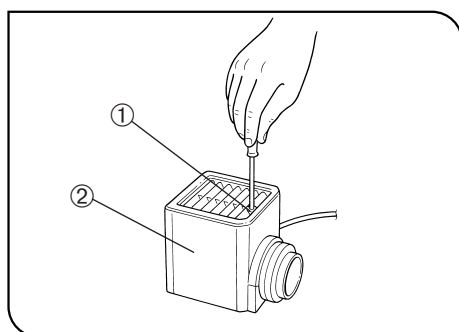

Fig. 22
(Figs. 22 to 24)
5. Slide the lamp housing cover onto the housing base from the above. Tighten the clamping screw ① while pressing downward on the cover. (Fig. 22)